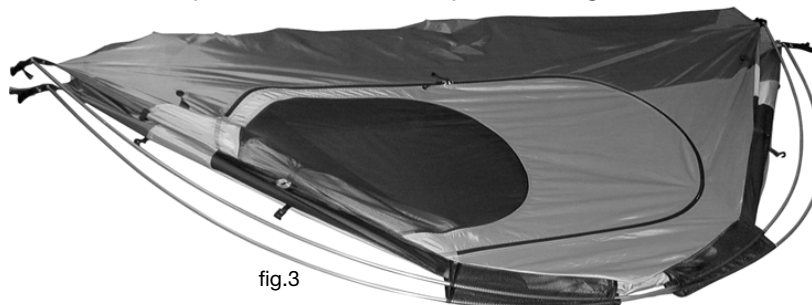

fig.3
- At the opposite corner, grasp the web and simultaneously push the pole to form an arc. Insert the post end into the grommet on the corner stake-out web. Repeat with the second pole. See fig.3.